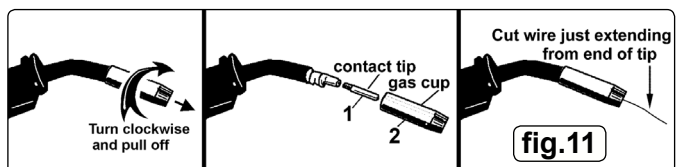

fig.11
- CONTACT TIP** The contact tip is a consumable item and must be replaced when the hole becomes enlarged or oval. The contact tip MUST be kept free from spatter to ensure an unimpeded flow of gas. Refer to fig.11 and section 3.9 for removal and replacement.